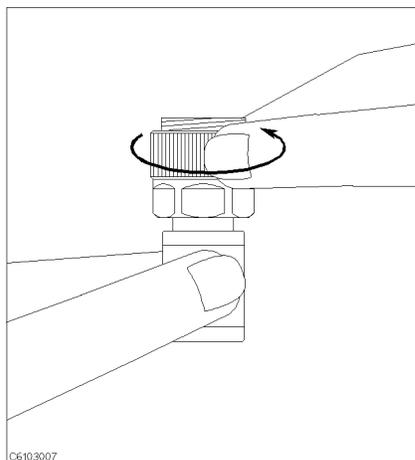

**Figure 4-8.**
8. Connect the  $0\ \Omega$  termination on the APC-7® connector as shown in Figure 4-8.